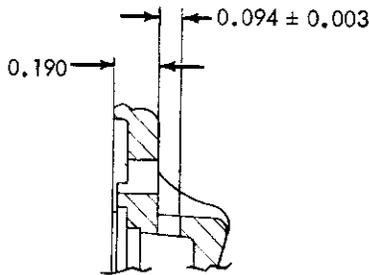

Figure 8B. Modification of Peepsight Slot
- (a) Set up a drill press with end mill cutter and fence 4 to 7 inches high to slide the back against and modify the slot to the dimensions shown in figure 8B. (Feed very slowly or the slot may become filled).